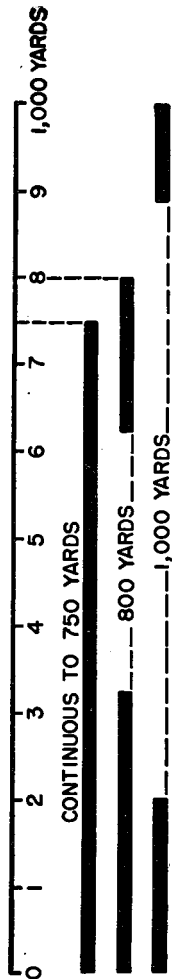

Figure 105. Trajectory diagram.
a. Trajectory is the path of a bullet in its flight through the air. The bullet of M2 armor-piercing ammunition leaves the muzzle of your rifle at 2800 feet per second (muzzle velocity). At this great speed, the trajectory is almost flat at short ranges. However, as the range increases, the height of the trajectory increases (fig. 105).